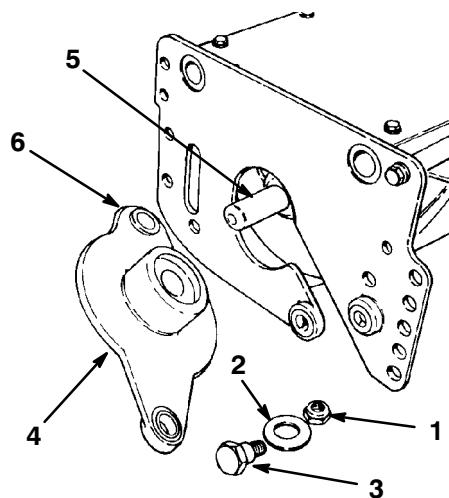

Figure 29
2. Remove the shoulder bolts, bushings, and spacers from each end of the unit and remove the bedbar/bedknife assembly (Fig. 29).
3. Remove the inboard locknut from the adjuster pin, the fasteners for the bracket, and the adjusting handle assembly from the sideplate (Fig. 29).
1. Inspect the flange bushings in the mounting holes for the drive housing and bearing housing for wear (Fig. 29). Replace, if necessary.
7. Insert the shoulder bolt through the Belleville washer and rear housing mounting hole. Slide the bolt through the sideplate mounting hole (Fig. 29). Install the cone nut locknut onto the bolt. Tighten the cone nut to 45-55 ft.-lb.